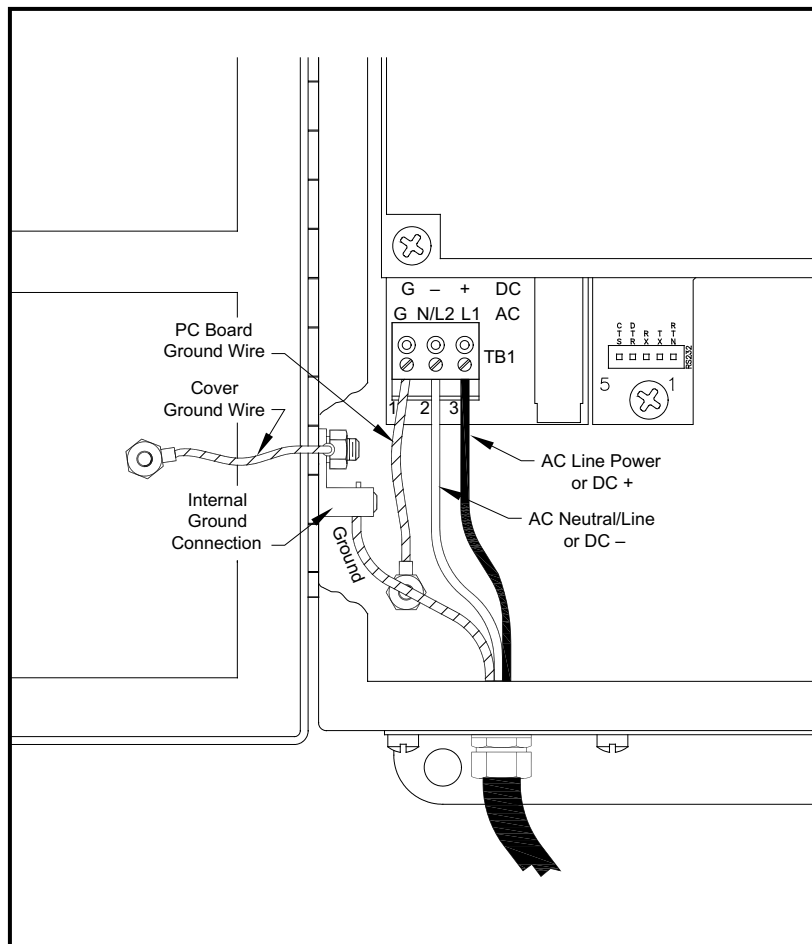

Figure 3: Wiring the Line Power
Refer to *Figure 3 on page 7* or *Figure 10 on page 18* to locate terminal block **TBI** and connect the line power as follows:
3. Connect the ground lead to the internal ground connection located on the side panel of the inclosure (see *Figure 3* below).
4. Connect the neutral or line lead (or the negative – DC power lead) to **TB1-2** and the line power lead (or the positive + DC power lead) to **TB1-3** as shown in *Figure 3* below.